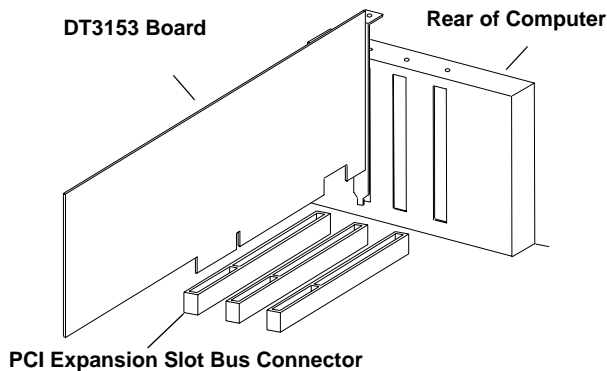

Figure 2: Inserting the DT3153 Board in the Computer
4. Position the board so that the cable connectors are facing the rear of the computer, as shown in Figure 2.